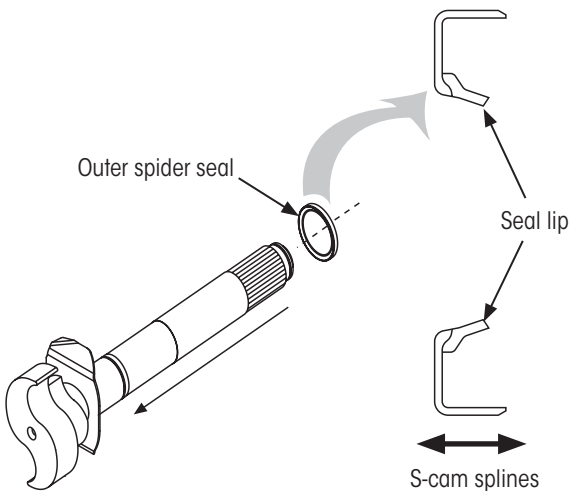

Figure 18: Installing the outer spider seal
5. **Slide** the spider seal onto the S-cam (Figure 18).
IMPORTANT: The lip of the inner spider seal must face inward, toward the S-cam splines (refer to Figure 18 for seal orientation). This seal orientation directs any excess grease away from the brake shoes.